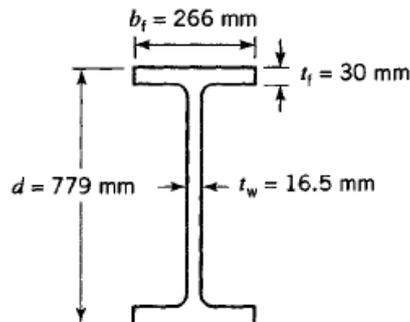

Fig.3
5. The nominal dimensions of a steel wide-flange section (W760x220) are shown in Fig.3. The beam is subjected to a twisting moment $T=5000\text{N}\cdot\text{m}$.